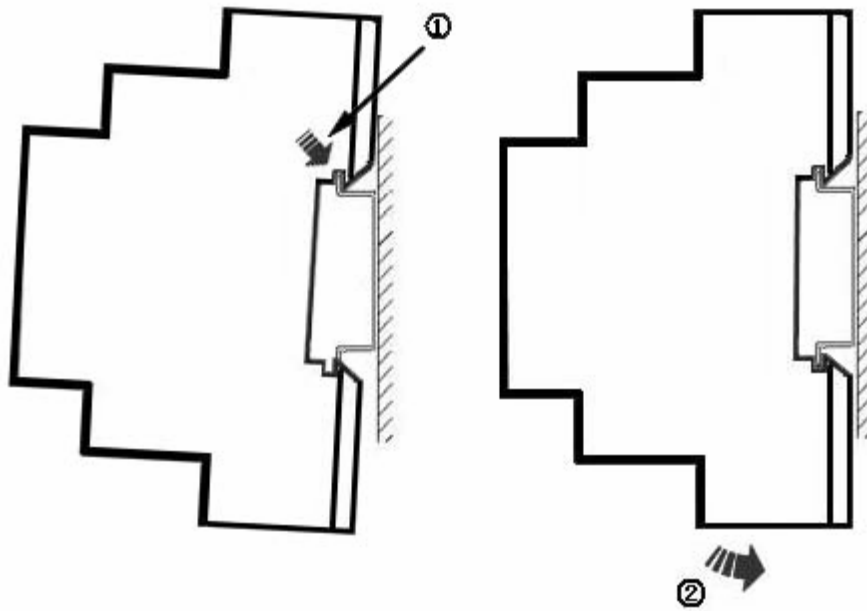

Figure 3-3 Install module
1. Install one side of the module to the rail, as shown in ❶ in Figure 3-3.
2. Rotate the module and install the other side to the rail, as shown in ② in Figure 3-3.